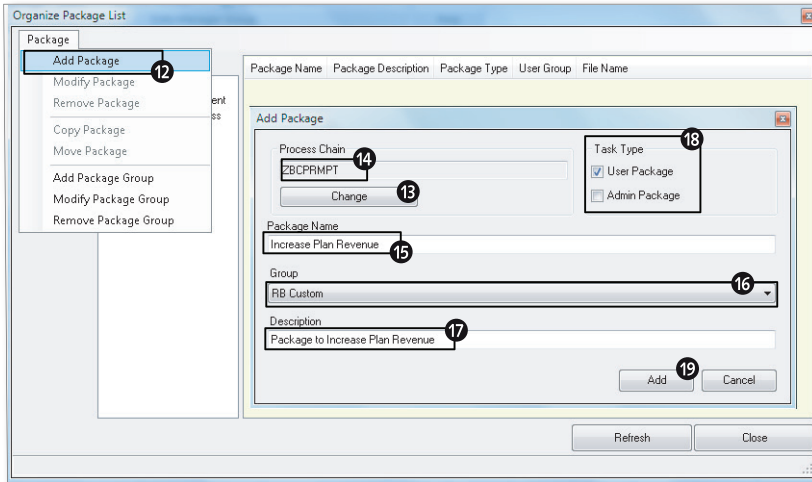

Figure 6.10 Creating Logic Script to Revalue Plan Data—Part G
9. We will now create a new package under the RB_CUSTOM group we created in the previous step. (This is just an example; you can place the package into any group you want.) Click on the ADD PACKAGE GROUP option under the PACKAGE menu (Figure 6.10, 12). In the ADD PACKAGE dialog box, click on CHANGE, and select the ZBCPRMPT process chain you created earlier in the SAP NetWeaver BW system (Figure 6.10, 13 and 14). This process chain is run when this data package is executed. Enter "Increase Plan Revenue" as the package name (Figure 6.10, 15). Select RB_CUSTOM as the group where this package should belong using the dropdown box, and enter "Package to Increase Plan Revenue" for the description (Figure 6.10, 16 and 17).
- To give appropriate access to the package, specify whether users will be authorized to execute it. If you select **USER PACKAGE**, users can execute the package. If you select **ADMIN PACKAGE**, only administrators can execute it (Figure 6.10, 18). After specifying the selection, click on **ADD** (Figure 6.10, 19).